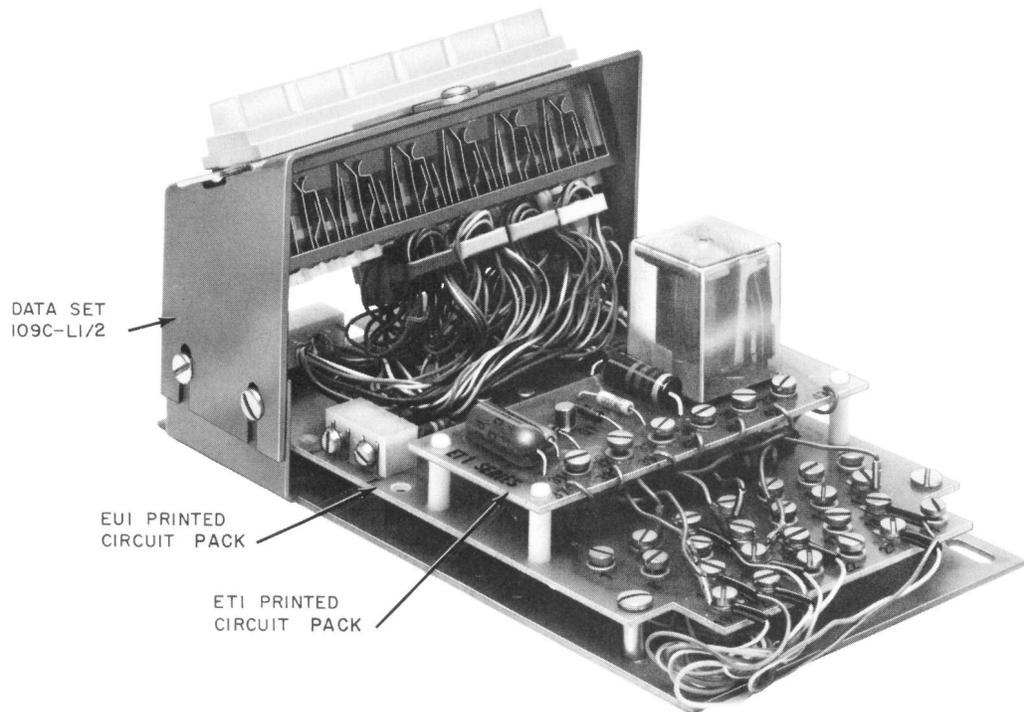

Fig. 3—Data Set 109C-L1/2
3.08 Data Set 109C-L1/2 includes Data Set 109C-L1 and a snap-on circuit pack ET1. Functionally, it provides two additional features not provided by Data Set 109C-L1. These are end of transmission (EOT) disconnect and send-space timer (SST). See Fig. 3.